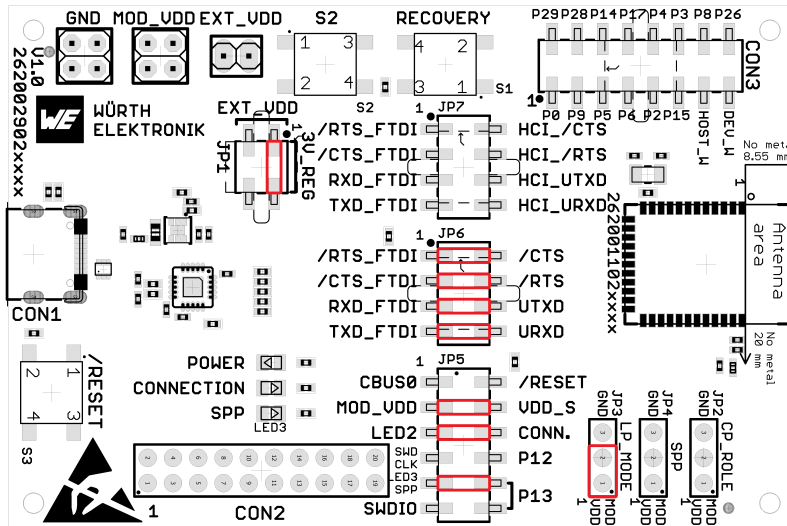

Figure 4: Default configuration of jumpers
- Step 2: Place the jumpers on default location, as shown in figure 4.